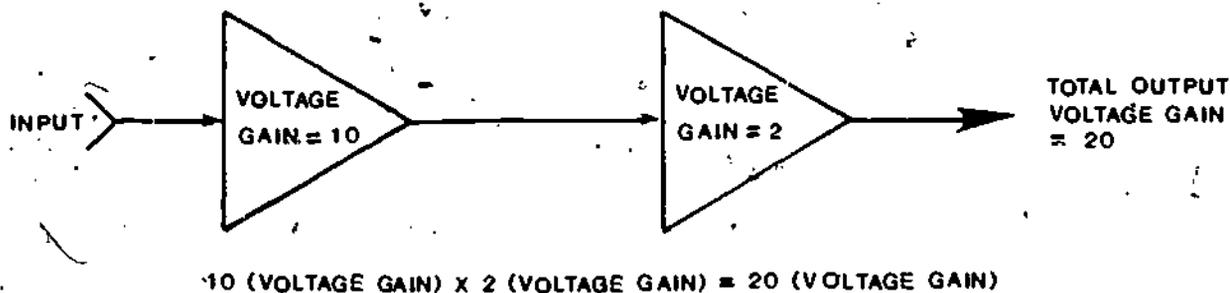

Figure 9
20. Now that you can convert gain ratios to decibels, let's see how useful decibels are in solving some typical problems. A common problem is to find out what is the total voltage gain in a circuit containing more than one amplifier. Figure 9 shows a diagram of a circuit containing two amplifiers connected in series, or "cascaded".
The voltage gain ratio (VG in Figure 9) for the first amplifier is 10 and for the second amplifier is 2.